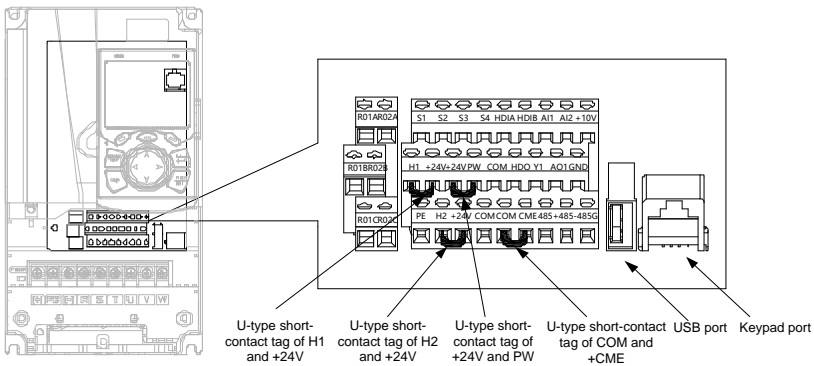

Figure 4-20 Position of U-type short-contact tag
**Note:** As shown in Figure 4-20, the USB port can be used to upgrade the software, and the keypad port can be used to connect an external keypad. The external keypad cannot be used when the keypad of the inverter is used.